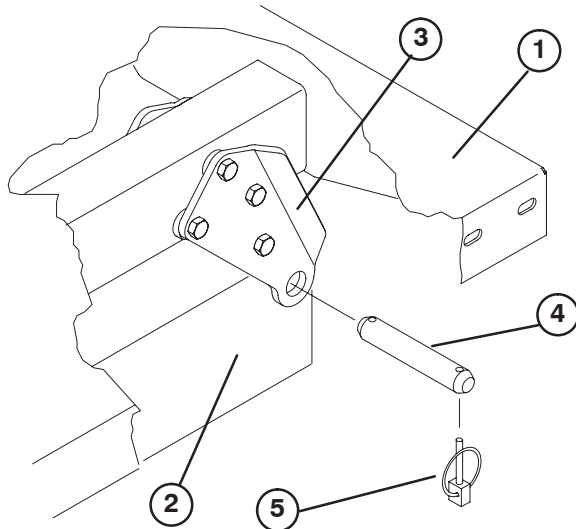

Figure 10
3. Remove clevis pins securing cylinder rod ends to bed mounting plates by pushing pins towards inside (Fig. 10).
4. Remove lynch pins and clevis pins securing pivot brackets to frame channels (Fig. 10).
Note: Assure rear pivot plates are bolted to the bed frame/channel so that lower end angles to the rear (Fig. 10).
2. Carefully set bed onto vehicle frame aligning rear bed pivot plate holes with holes in rear frame channel and install (2) clevis pins and lynch pins (Fig. 10).
3. With bed lowered, secure each cylinder rod end, to appropriate slots in bed mounting plates with clevis pin and lynch pin. Insert clevis pin from outside of bed with lynch pin toward outside (Fig. 10). Rear slots are for full bed installation and front slots are for 2/3 bed installation.